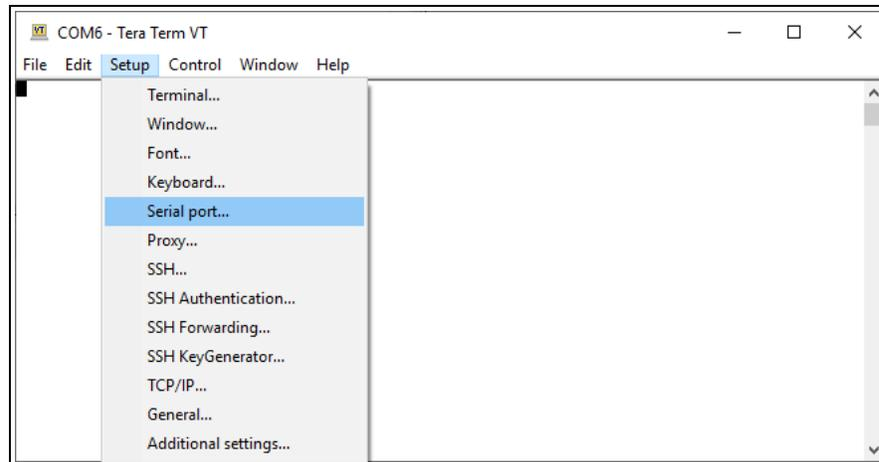

Figure 58: Setup menu > Serial Port
5. In the **Tera Term** window, click the **Setup** menu and select **Serial Port**. Figure 58